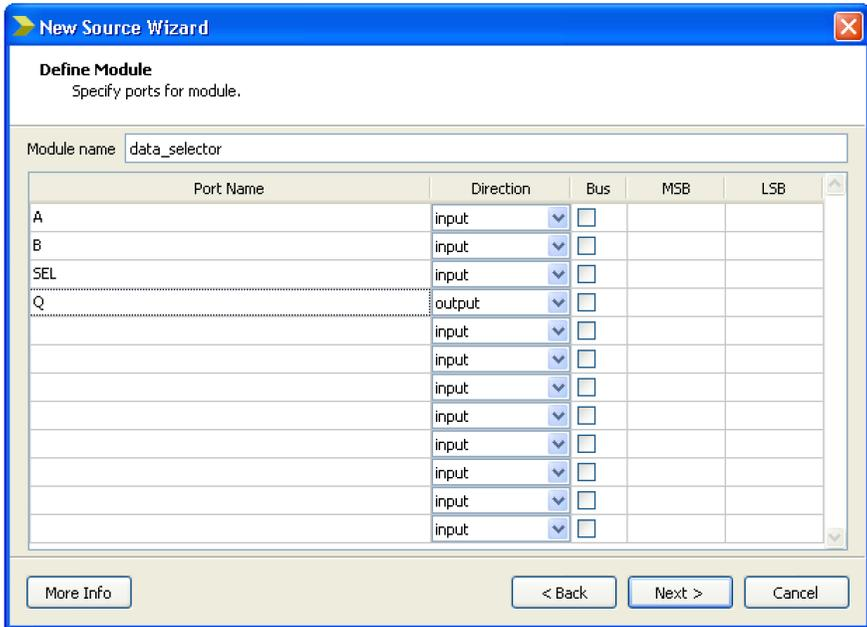

Figure 4-3 Defining inputs and outputs for the new Verilog source.
Select a source type of Verilog module and give the source the name “data_selector,” as you did with the schematic design; then set the directory to be “src.” When you click “Next,” you will be prompted to define the inputs and outputs to the module (Figure 4-3). This step generates some code for the Verilog module to get you started. If you prefer, you can just click “Next” without adding any inputs or outputs and type in the Verilog text directly. However, it does save a little typing, so for now, let’s use the Wizard.
Use the New Source Wizard window to define three inputs (A, B, and SEL) and one output (Q), as shown in Figure 4-3. Click “Next,” and then after the summary screen, click “Finish.” The Wizard will then generate a template file for your